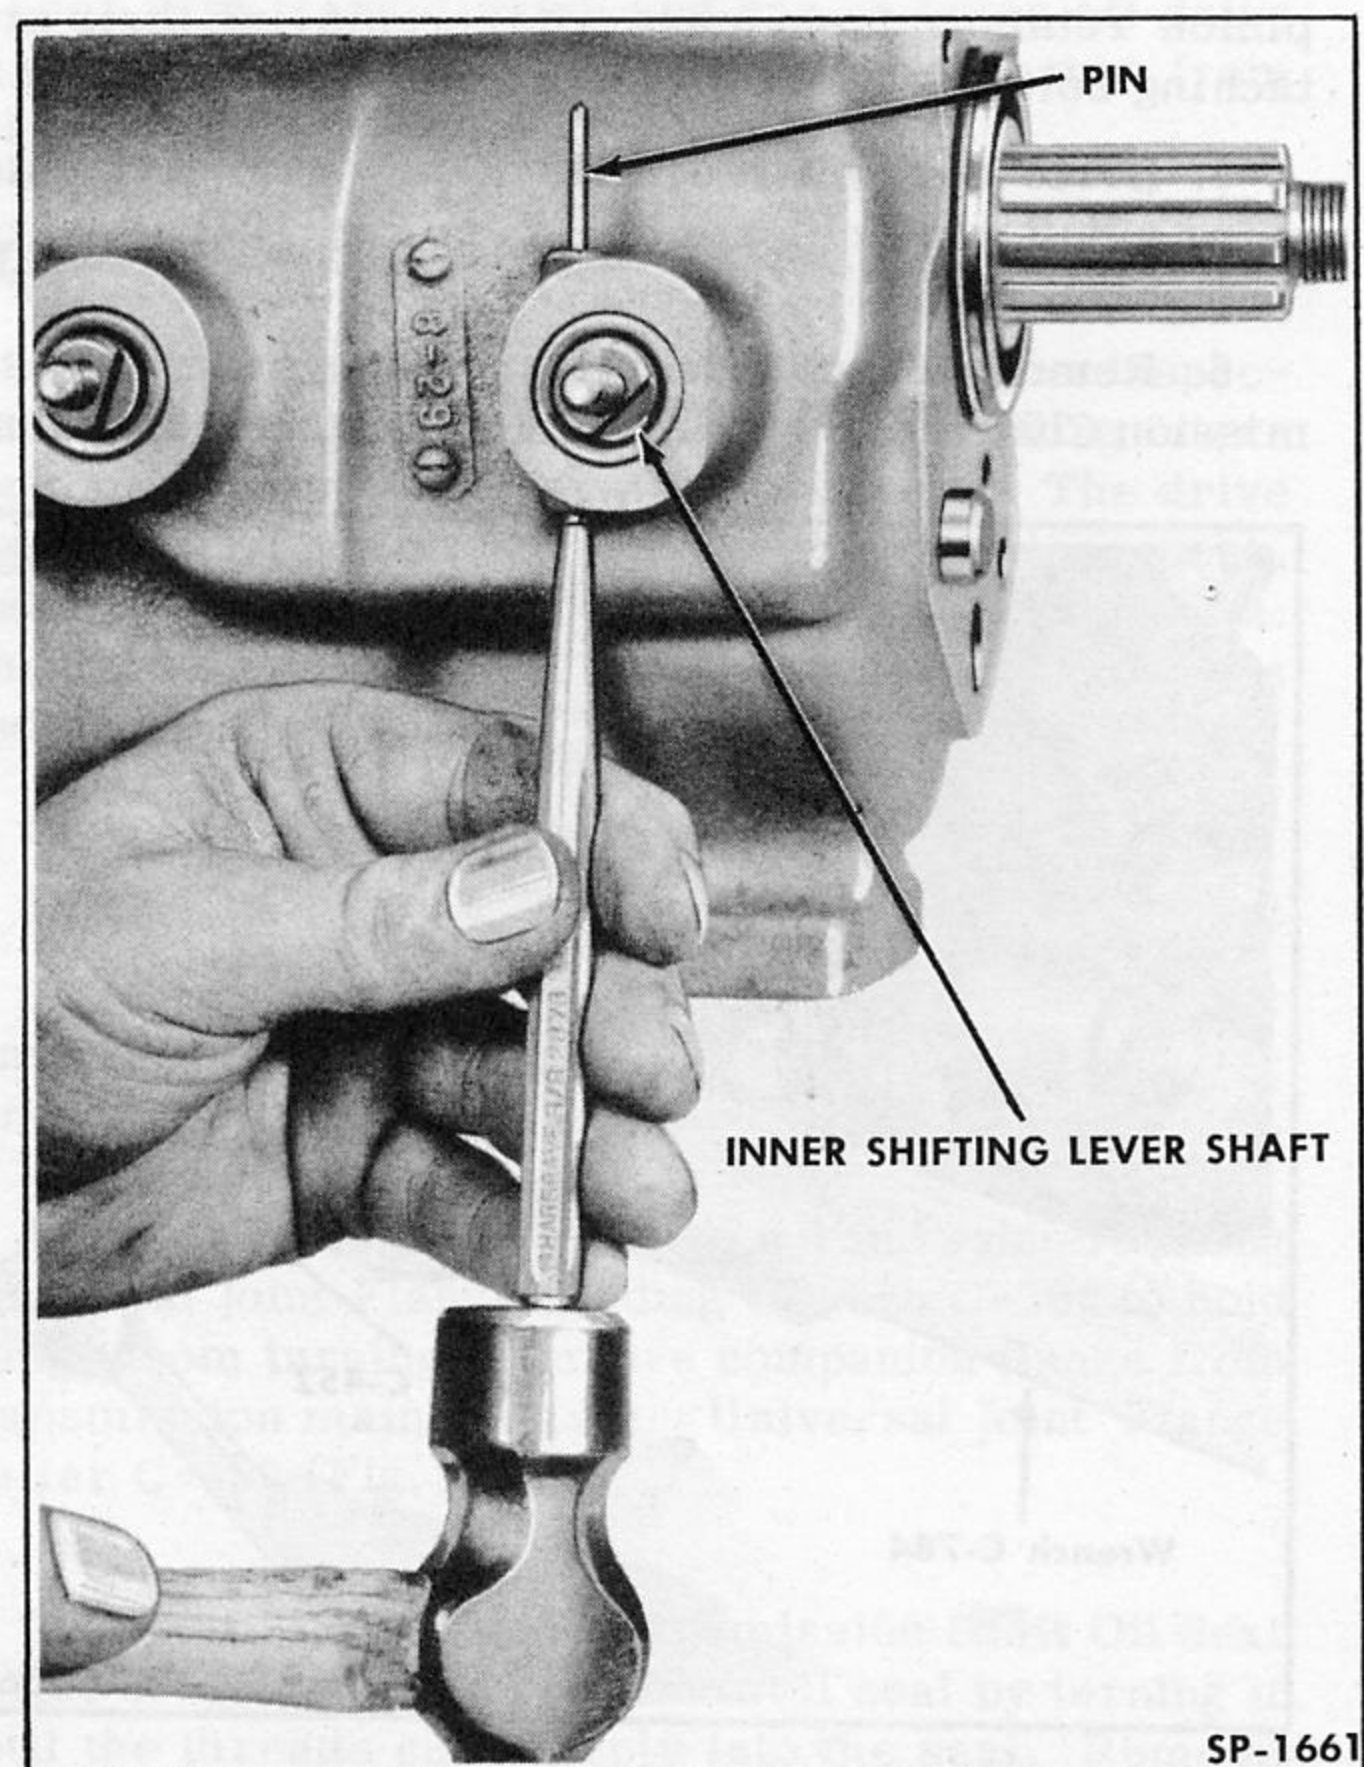

Fig. 130—Removing Inner Shifting Levers
11. Remove outer shifting lever nuts, washers and levers. Remove inner shifting lever and shaft assemblies from inside transmission case after shifting lever pins are removed (Fig. 130). Pins must be driven out from underside of boss as shown. Remove and discard inner shifting lever oil seals from each transmission case boss.